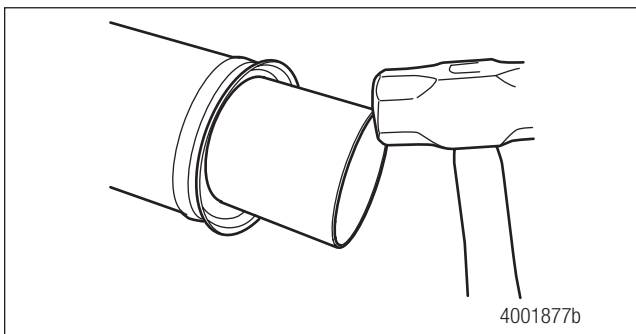

Figure 10.16
2. Install a new deflector on the coupling shaft. To avoid damaging the deflector, use a section of tubing and a brass hammer to seat the deflector. Verify that the deflector is completely seated against the center bearing support shoulder. Figure 10.16.